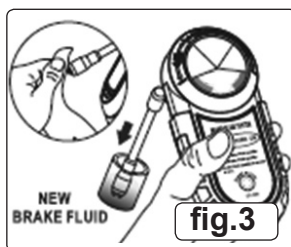

fig.3
- 4.2.2. Clean the two probes on the test bar head (fig.3)
- 4.2.3. Dip the test bar head into a sample of fluid drawn from a container which was previously unopened and sealed (fig.3). This is particularly important as this fluid will be used as the reference against which subsequent samples are compared.